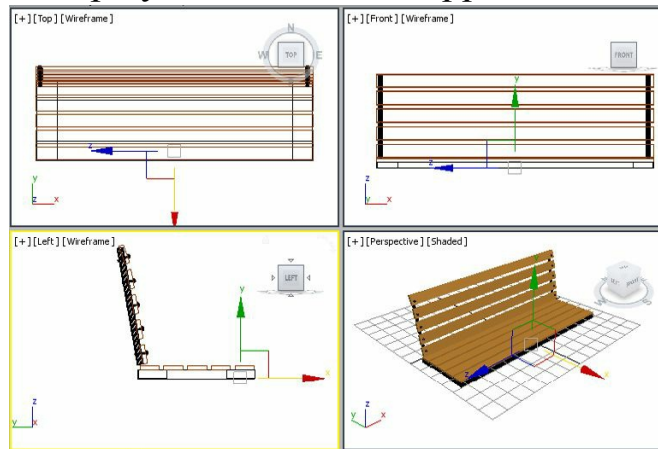

Figure 2-86 Alignment of leg support004 in viewports
12. Choose the **Select and Move** tool and align *leg support004* with *horizontal seat support* in all viewports, refer to Figure 2-86.